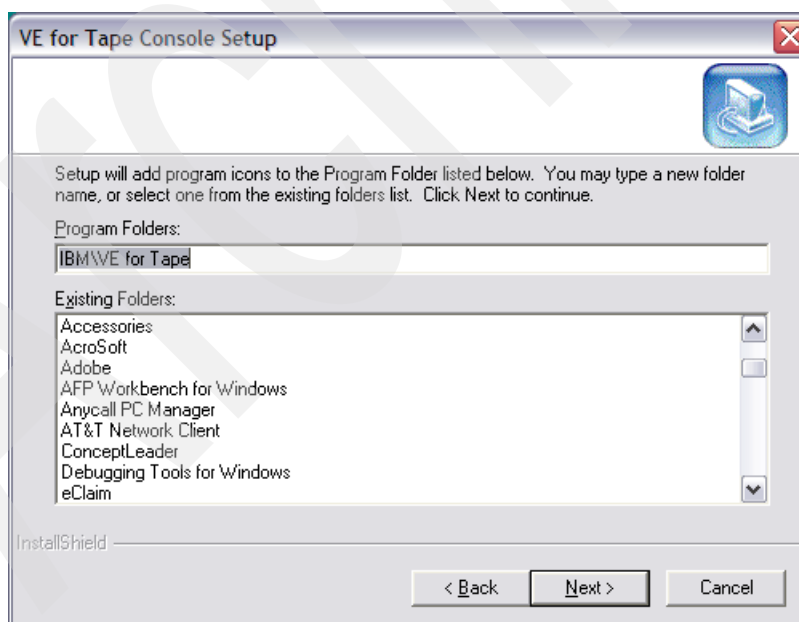

Figure 6-14 TS7530 VE for Tape Console program folder name
10. In the Select Program Folder window of the installation wizard you can change the name of the TS7530 VE for Tape Console program folder. We recommend that you use the default TS7530 VE for Tape Console folder name (IBM\VE for Tape). Specify the program folder name and click **Next** on the panel shown in Figure 6-14.